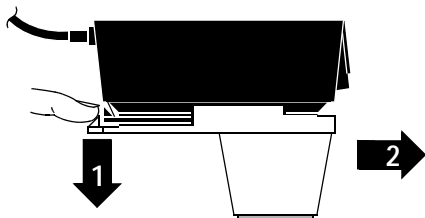

Figure 6-7 Removing a Pediatric Paddle
2. Slide the pediatric paddle off (see Figure 6-7).